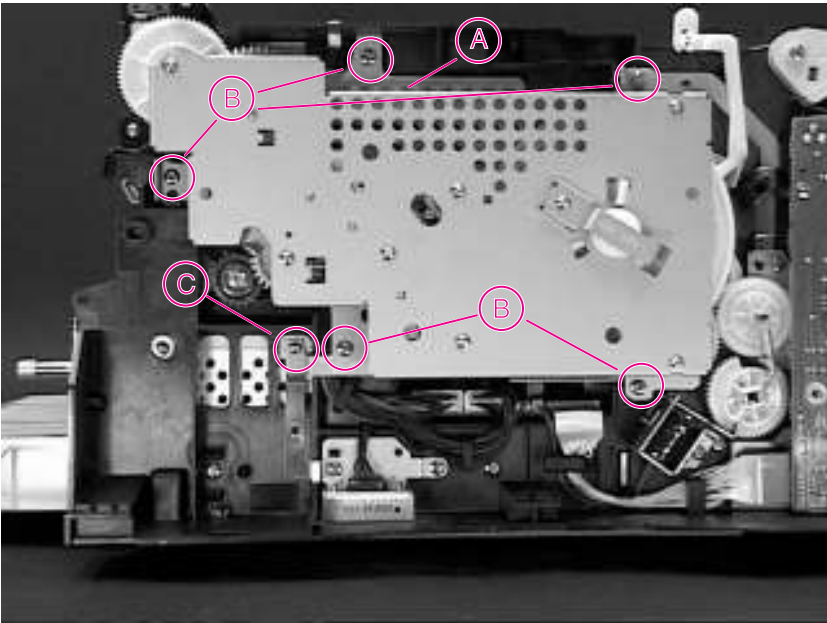

Figure 6-26 Main Gear Assembly, Left Side
- 2 The Main Motor is located on a PCA (see Figure 6-26) on the back side of the Gear Assembly. Disconnect the Main Motor Cable.